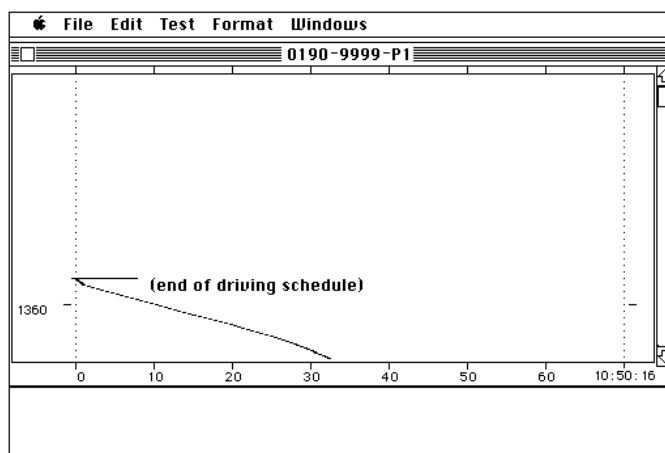

Figure 5
- 312 Two seconds after the end of the last deceleration of the UDDS (the 1369-second point on the driving schedule), the LA-4 prep cycle is complete. See Figure 5. The VDA program will automatically save the test data.